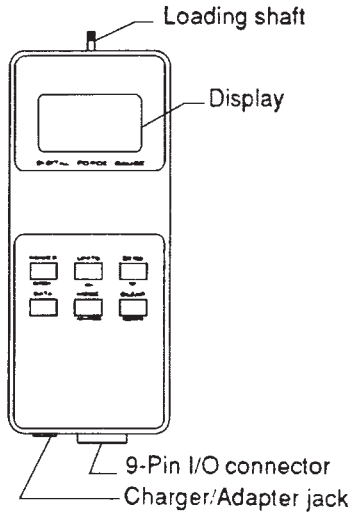

Figure 3-1. Controls and Indicators
3.1 Controls and Indicators (Refer to Figure 3-1)
1. Screw the appropriate attachment on the end of the threaded shaft (see Figure 3-1). Finger tighten only. This prevents possible damage to the low capacity internal load cell.